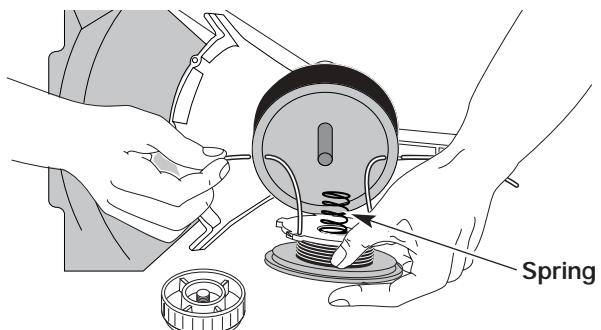

Figure 39
13. Insert the ends of the line through the eyelets in the outer spool and place inner reel with spring inside the outer spool. See Figure 39. Push the inner reel and outer spool together. While holding the inner reel and outer spool, grasp the ends and pull firmly to release the line from the holding slots in the reel.
5. Insert the ends of the line through the eyelets in the outer spool. See Figure 39.